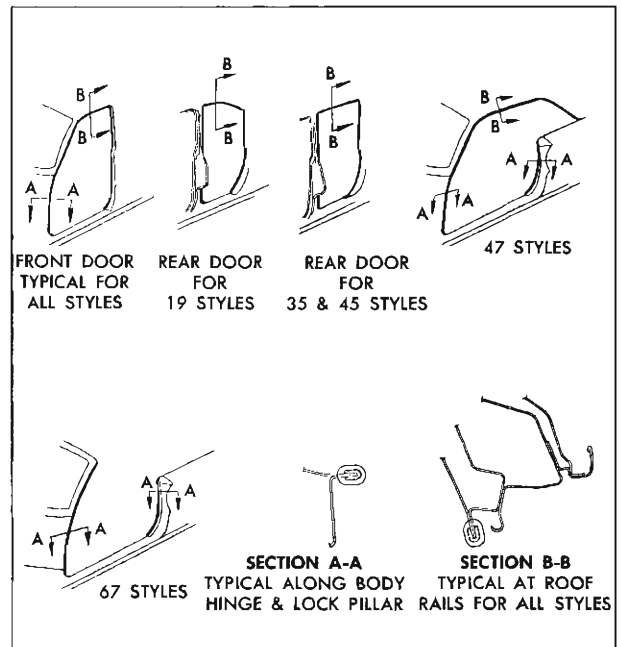

Fig. 12-13 Pinchweld Finishing Strips
6. To install, reverse removal procedure. Figure 12-13 shows pinchweld finishing strip locations for all styles.